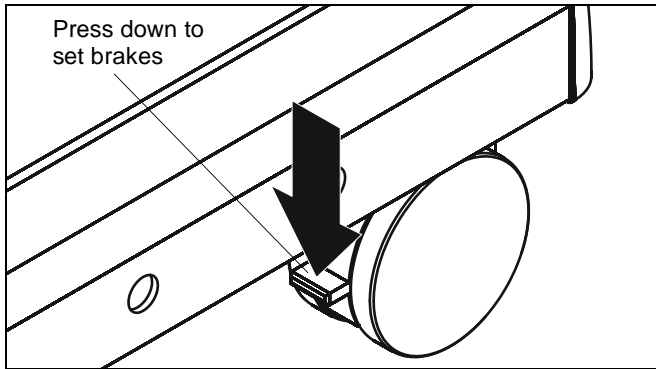

**Figure 4**
3. Attach head assembly (G) or (H) to the cart assembly using four 5/16-18 x 3/4" button head cap screws (L). (See Figure 4)